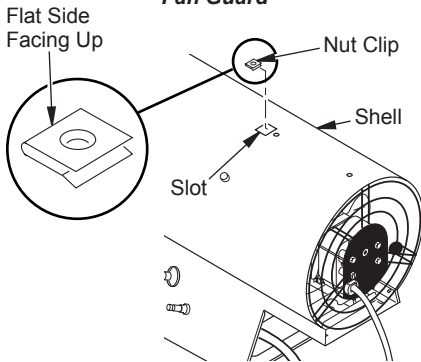

Figure 4 - Installing Nut Clip
2. Insert nut clip (provided with handle) with flat side facing up through slot in top of shell. Align holes in nut clip with screw hole behind slot in top of shell (see Figure 4).